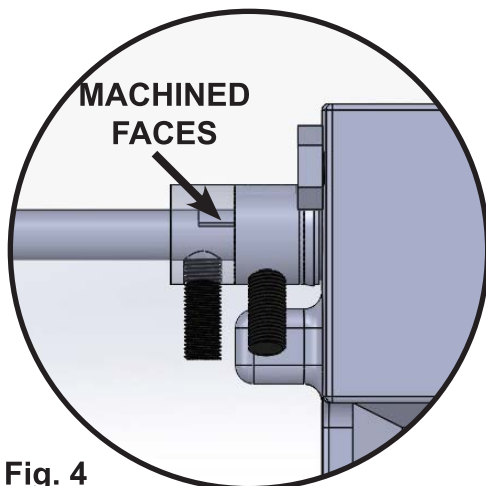

**Fig. 2**
3. Ensure fans have not shifted during transport and are in correct position, they should be in notch of fan mount guides. (**Fig. 2**)